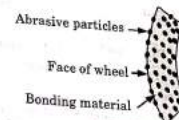

Fig. 3.7.1.
- Fig. 3.7.1 showing edge of abrasive grains projecting from the face of the grinding wheel. Each abrasive particle projecting acts as separate cutting tool.